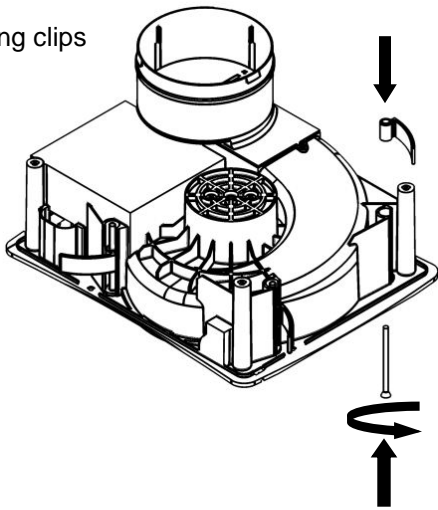

Fig. 6. PIR sensor cable - **(TM only)**
2. Removing the grille. Firstly, remove the front cover by carefully pulling each corner of the front panel until it is free to be removed from the inner grille (Fig 1). Unscrew the two screws at the bottom of the inner grille. The screws will remain in the inner grille but will be loose when the grille is ready to be removed (Fig 1). Lift the inner grille from the bottom edge ensuring not to damage the sensor cable (TM model only) attached to the front assembly and Base Housing (Fig 6).
8. Replace the inner grille ensuring that the PIR sensor cable (TM model only) is reconnected to the PIR sensor PCB (Fig 6). Replace the front panel.
10. Replace the inner grille ensuring that the PIR sensor cable (TM model only) is reconnected to the PIR sensor PCB (Fig 6). Replace the front panel.
5. Removing the grille. Firstly, remove the front cover by carefully pulling each corner of the front panel until it is free to be removed from the inner grille (Fig 1). Unscrew the two screws at the bottom of the inner grille. The screws will remain in the inner grille but will be loose when the grille is ready to be removed (Fig1). Lift the inner grille from the bottom edge ensuring not to damage the sensor cable (TM model only) attached to the front assembly and Base Housing (Fig 6).
12. Replace the inner grille ensuring that the PIR sensor cable (TM model only) is reconnected to the PIR sensor PCB (Fig 6). Replace the front panel.